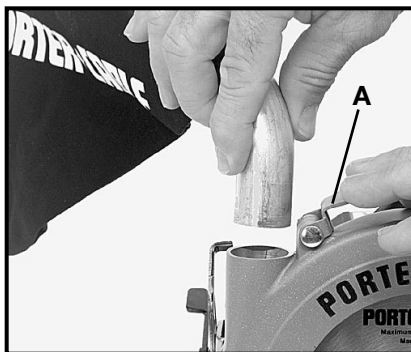

Fig. 12
2. Swing open exhaust cover (A), Fig. 12, and clean out any sawdust that may have accumulated.